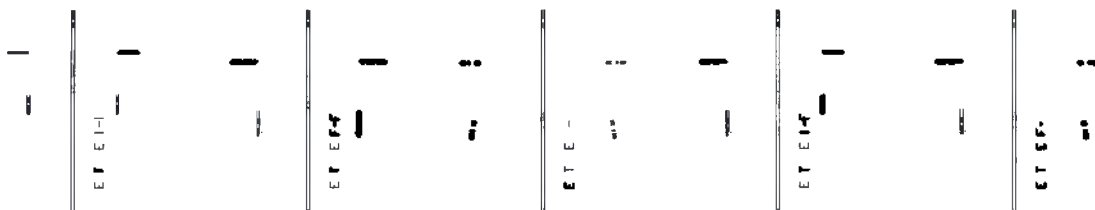

Figure 1
- Currently, the available curves for the THERMOCOOL SMARTTOUCH SF Bi-Directional Navigation Catheters include DD, FF, JJ, DF, and FJ (Figure 1).